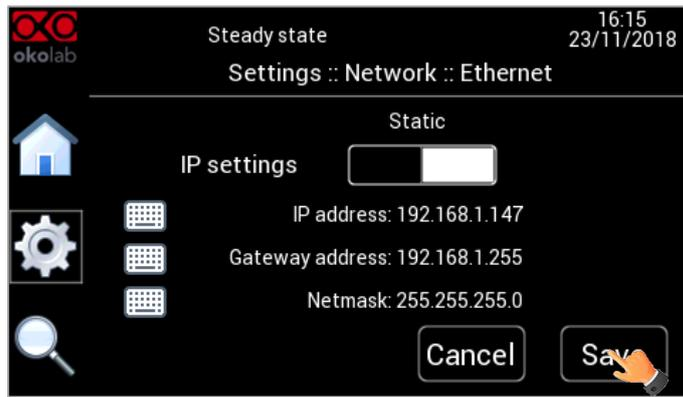

Figure 89 Static Network Connection.
- Once you have entered the IP address, the Gateway address and the Netmask, press on *Save*, see Figure 89